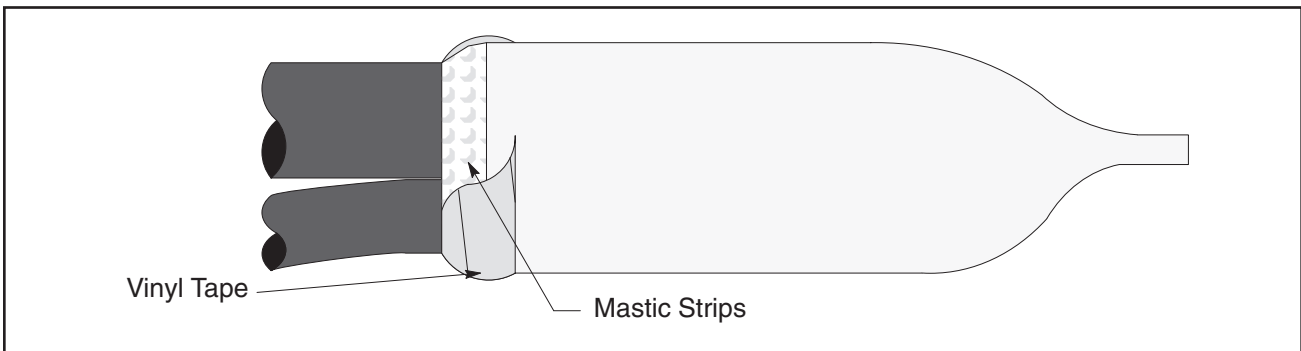

Figure 5
3.2 Remove liner from Mastic Sealant Strips and apply around and between cables and at a position as close as possible to the end of the Lug Cover (Figure 5).
3.3 Overwrap Mastic Sealant and the end of the Lug Cover with one or two wraps of vinyl tape (Figure 5).